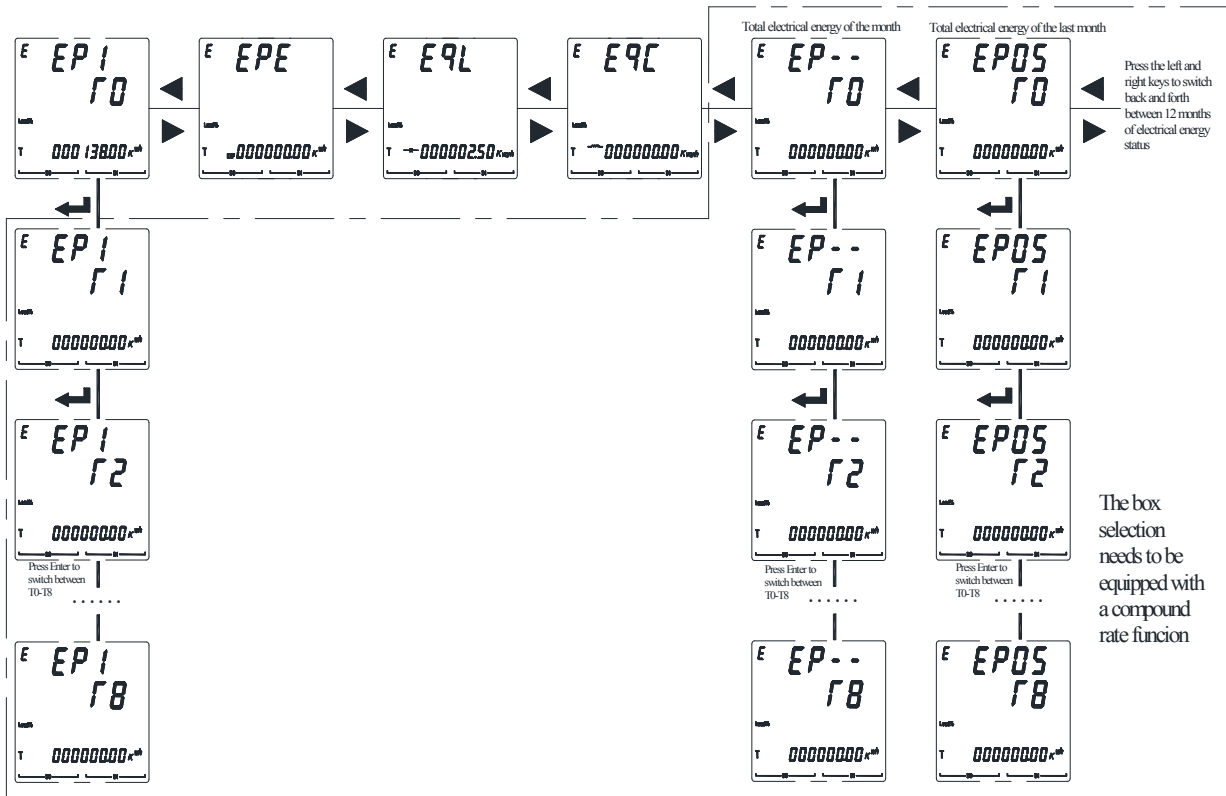

Figure 21
5.2.6 View the power parameters of the DEMP-AC3-DXX-E as shown in Figure 21.